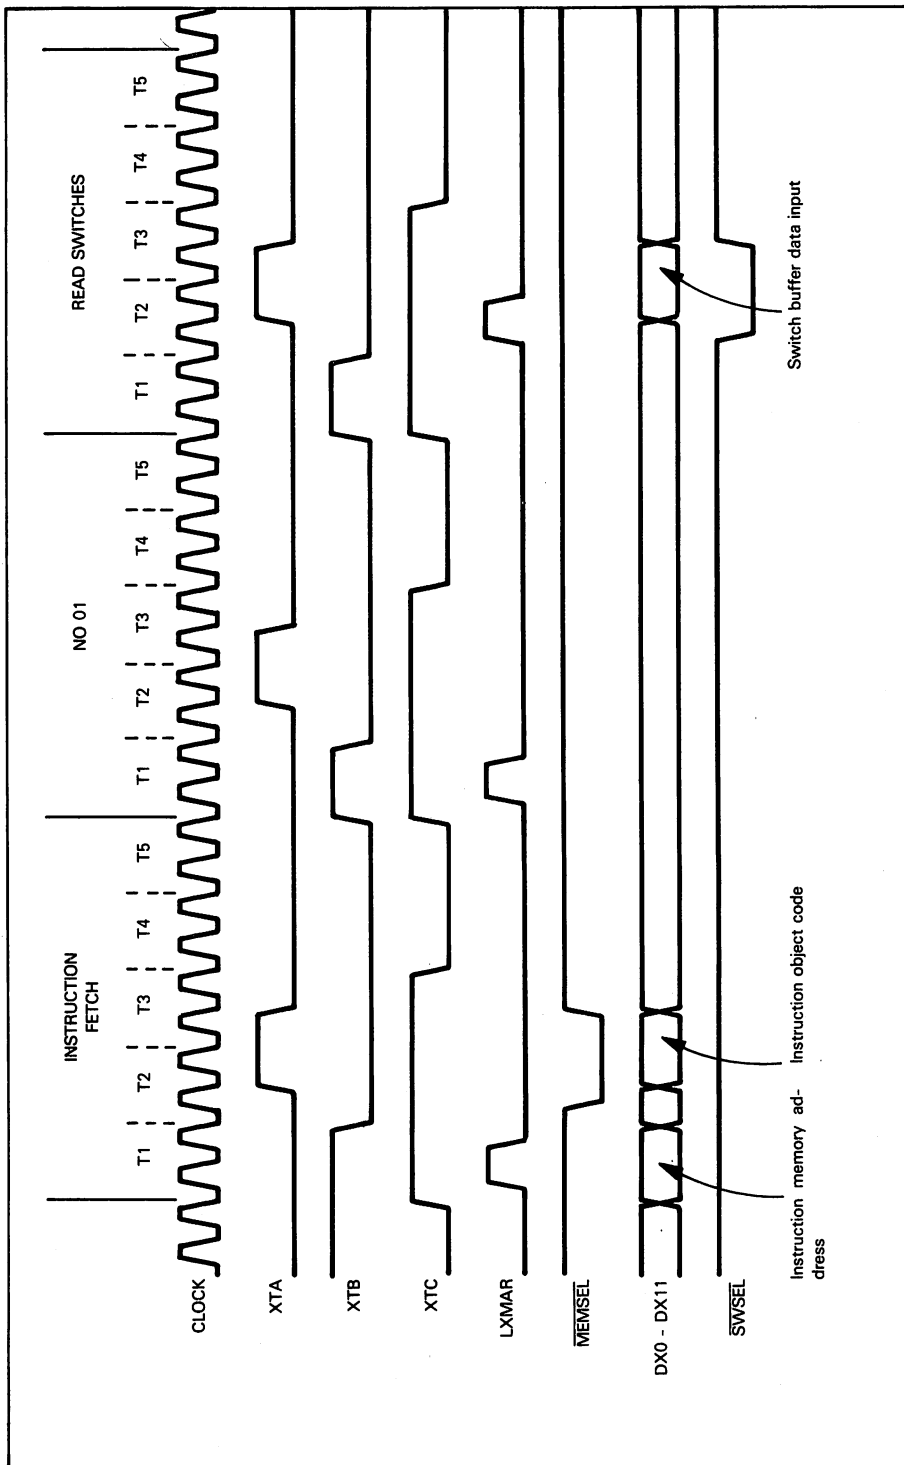

Figure 13-24. IM6100 OSR Instruction Timing
**There is a single instruction, the OSR instruction, which accesses a control panel switch register.** The switch register is assumed to be a 12-bit register holding data that is input via control panel switches. The OSR instruction reads the switch register contents and ORs this data on a bit-by-bit basis with the contents of the CPU Accumulator. When the OSR instruction is executed, timing is a variation of a memory read instruction with direct addressing. **Timing is illustrated in Figure 13-24.**